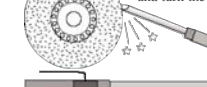

Figure 2
- Now screw down the assembly to the grinder mounting board (as shown in Fig 2.).